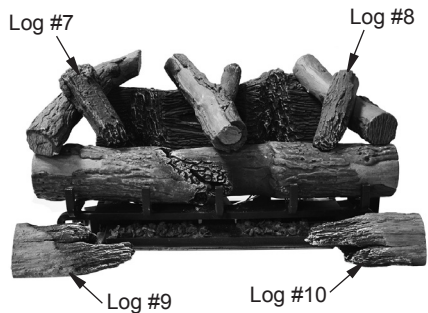

Figure 22 - Installing Logs #7, #8, #9 and #10
4. Place log #7 and log #8 as shown in Figure 22.
5. Place log #9 and log #10 onto the fireplace floor in front of the chassis as shown in Figure 22.